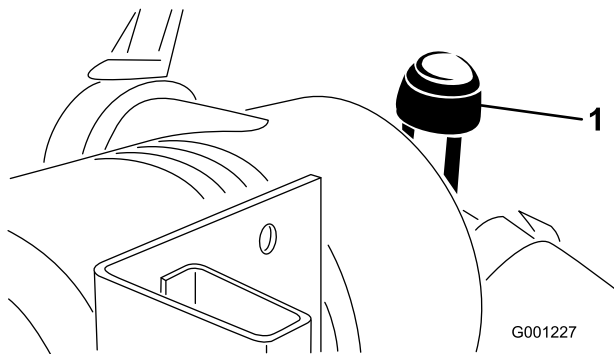

Figure 37
- Service the air cleaner filter when air cleaner indicator (Figure 37) shows red or every 400 hours (more frequently in extreme dusty or dirty conditions). Do not over service air filter.
6. Reset indicator (Figure 37) if showing red.